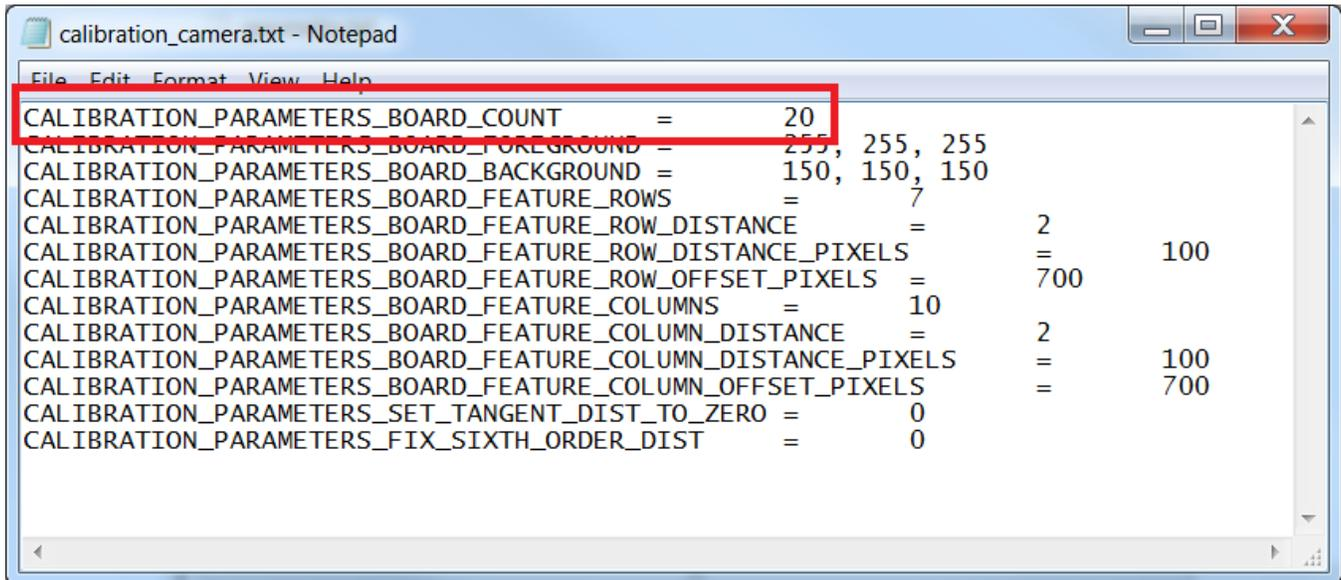
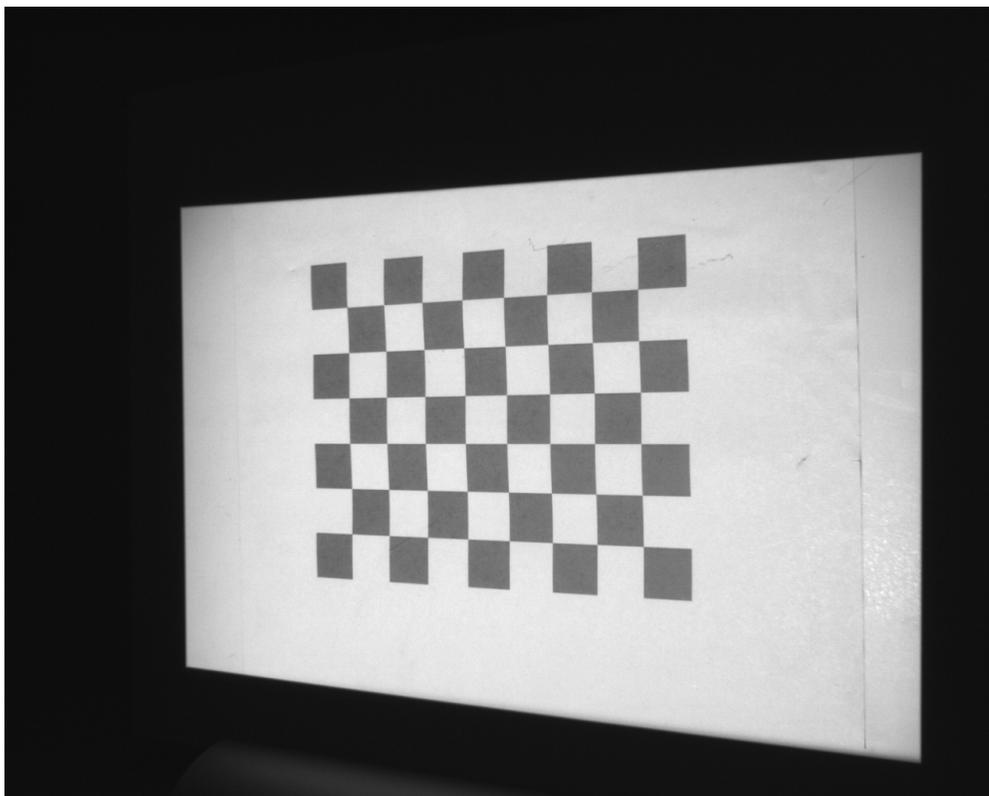
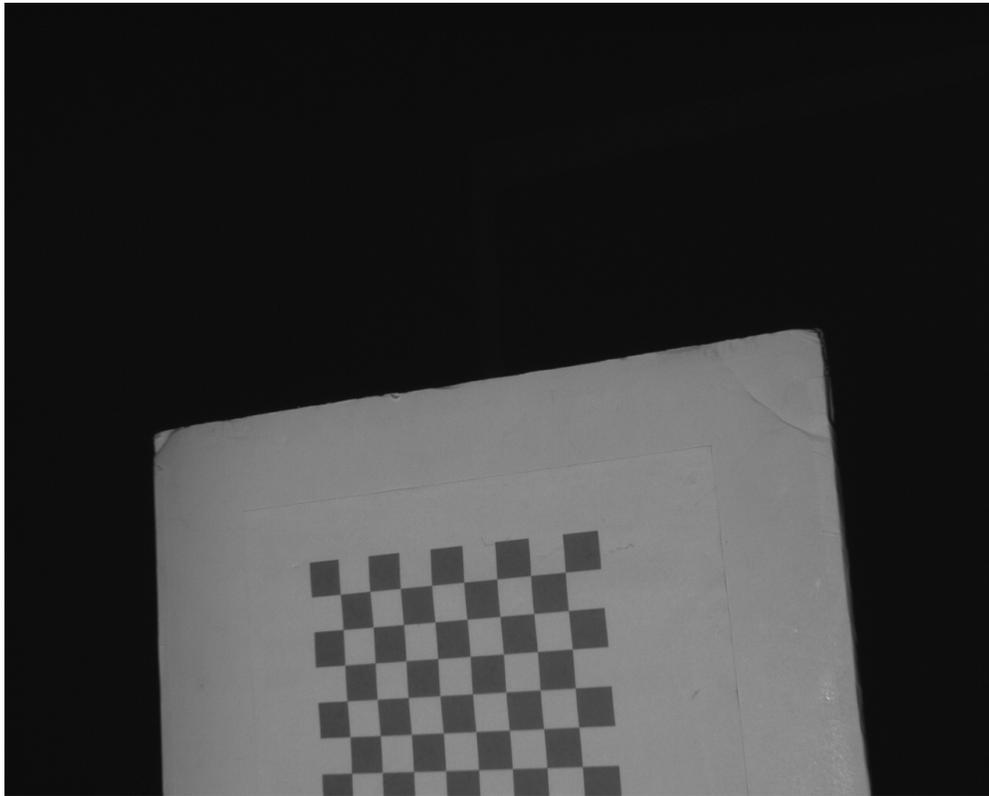

Figure 3-13. Camera Calibration Configuration File
Figure 3-14. Calibration Board Image Capture Position 1
Figure 3-23. Calibration Board Image Capture Position 10
9. From the live camera view window, position the camera at varying angles and distances from the projection surface. Place the grid in different areas of the camera's view and press the SPACEBAR to capture images. Default settings require twenty calibration images although this parameter can be adjusted. In \config, find *calibration_camera.txt*. Figure 3-13 highlights the parameter which specifies the number of calibration images. Some recommended calibration images are shown in Figure 3-14 to Figure 3-23. It is okay to move the camera at this point in the calibration procedure.